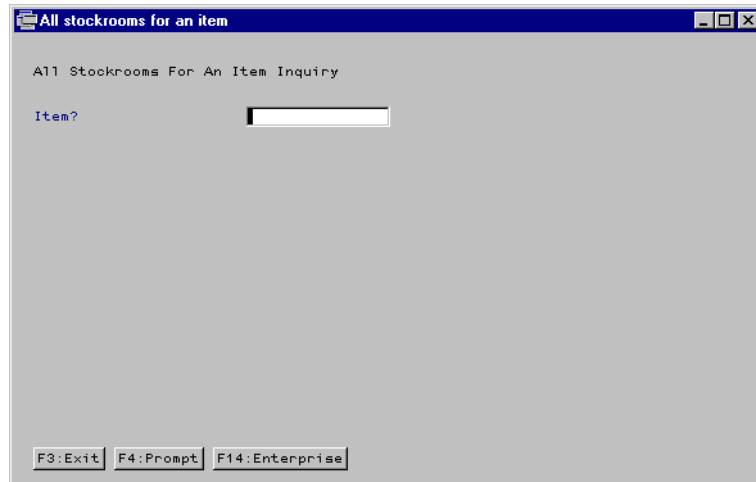

Figure 64. Active System 21 Explorer activity
3. Enter the user ID and password. Click the **OK** button to continue the logon process. At this point, the user interface for the activity is presented as shown in Figure 64.